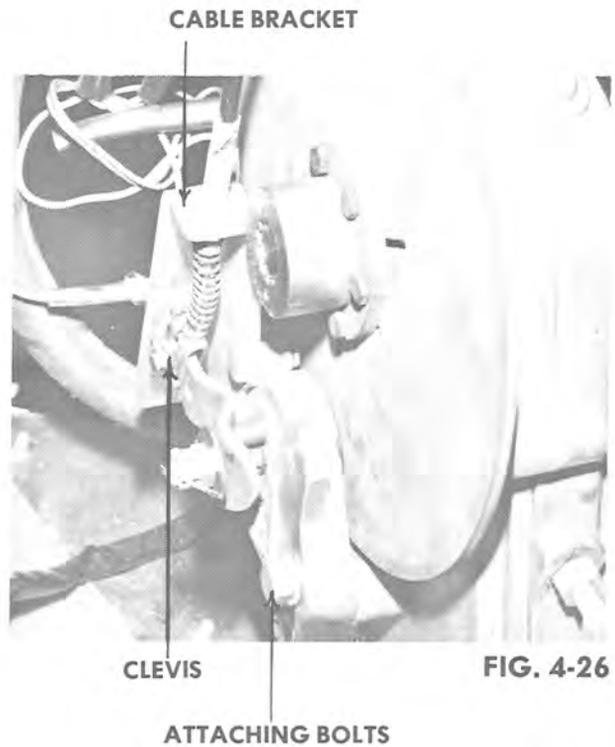

FIG. 4-26
1. Reverse of removal. (See Fig. 4-26).